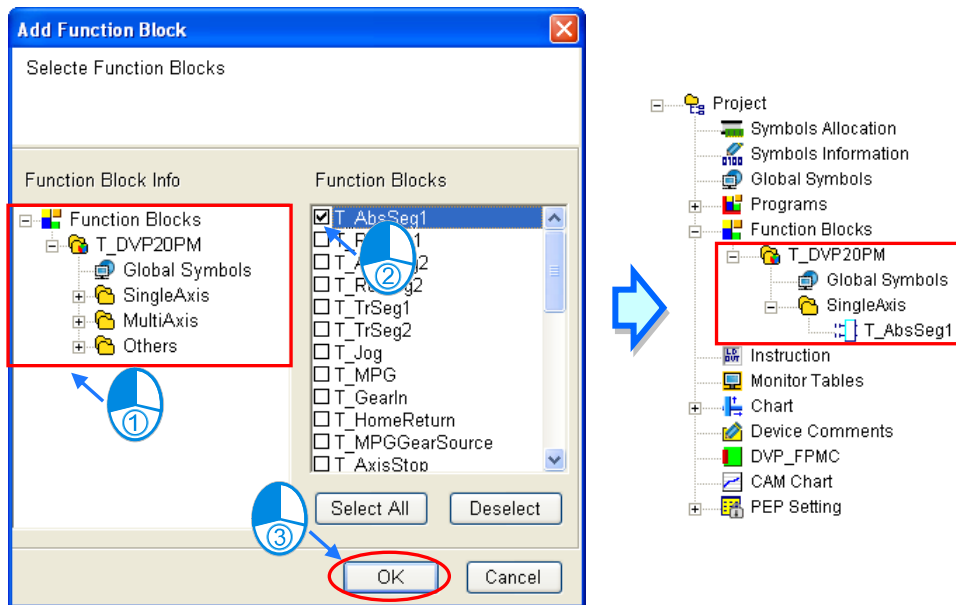

Figure 13-22 Selecting function blocks which need to be added
- (4) In the **Add Function Block** window, the users have to select a function block type in the **Function Block Info** section, and select function block definitions in the **Function Blocks** section. If the users click **Select All**, all the function block definitions in the **Function Blocks** section will be selected. If the users click **Deselect**, all the function block definitions in the **Function Blocks** section will be unselected. Finally, the users have to click **OK**. Please see figure 13-22.